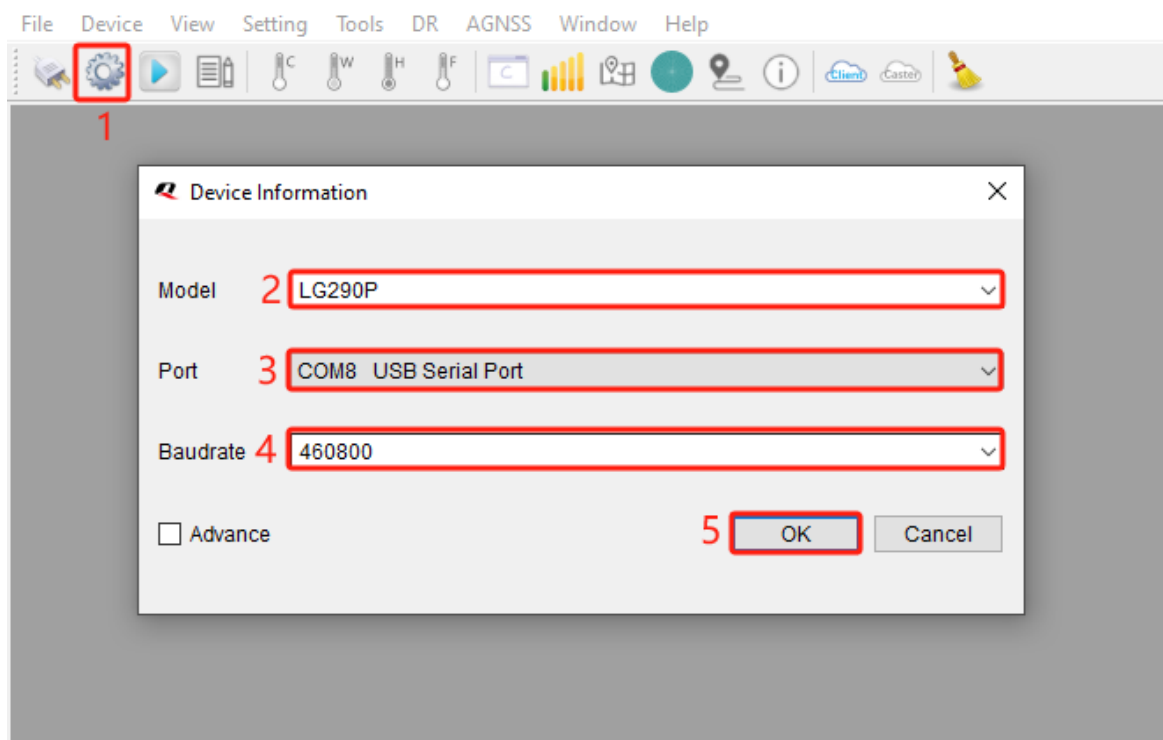

Figure 6: Device Information
Step 1 Open QGNSS tool and click  to access the “**Device Information**” window as shown in Figure 6: Device Information.